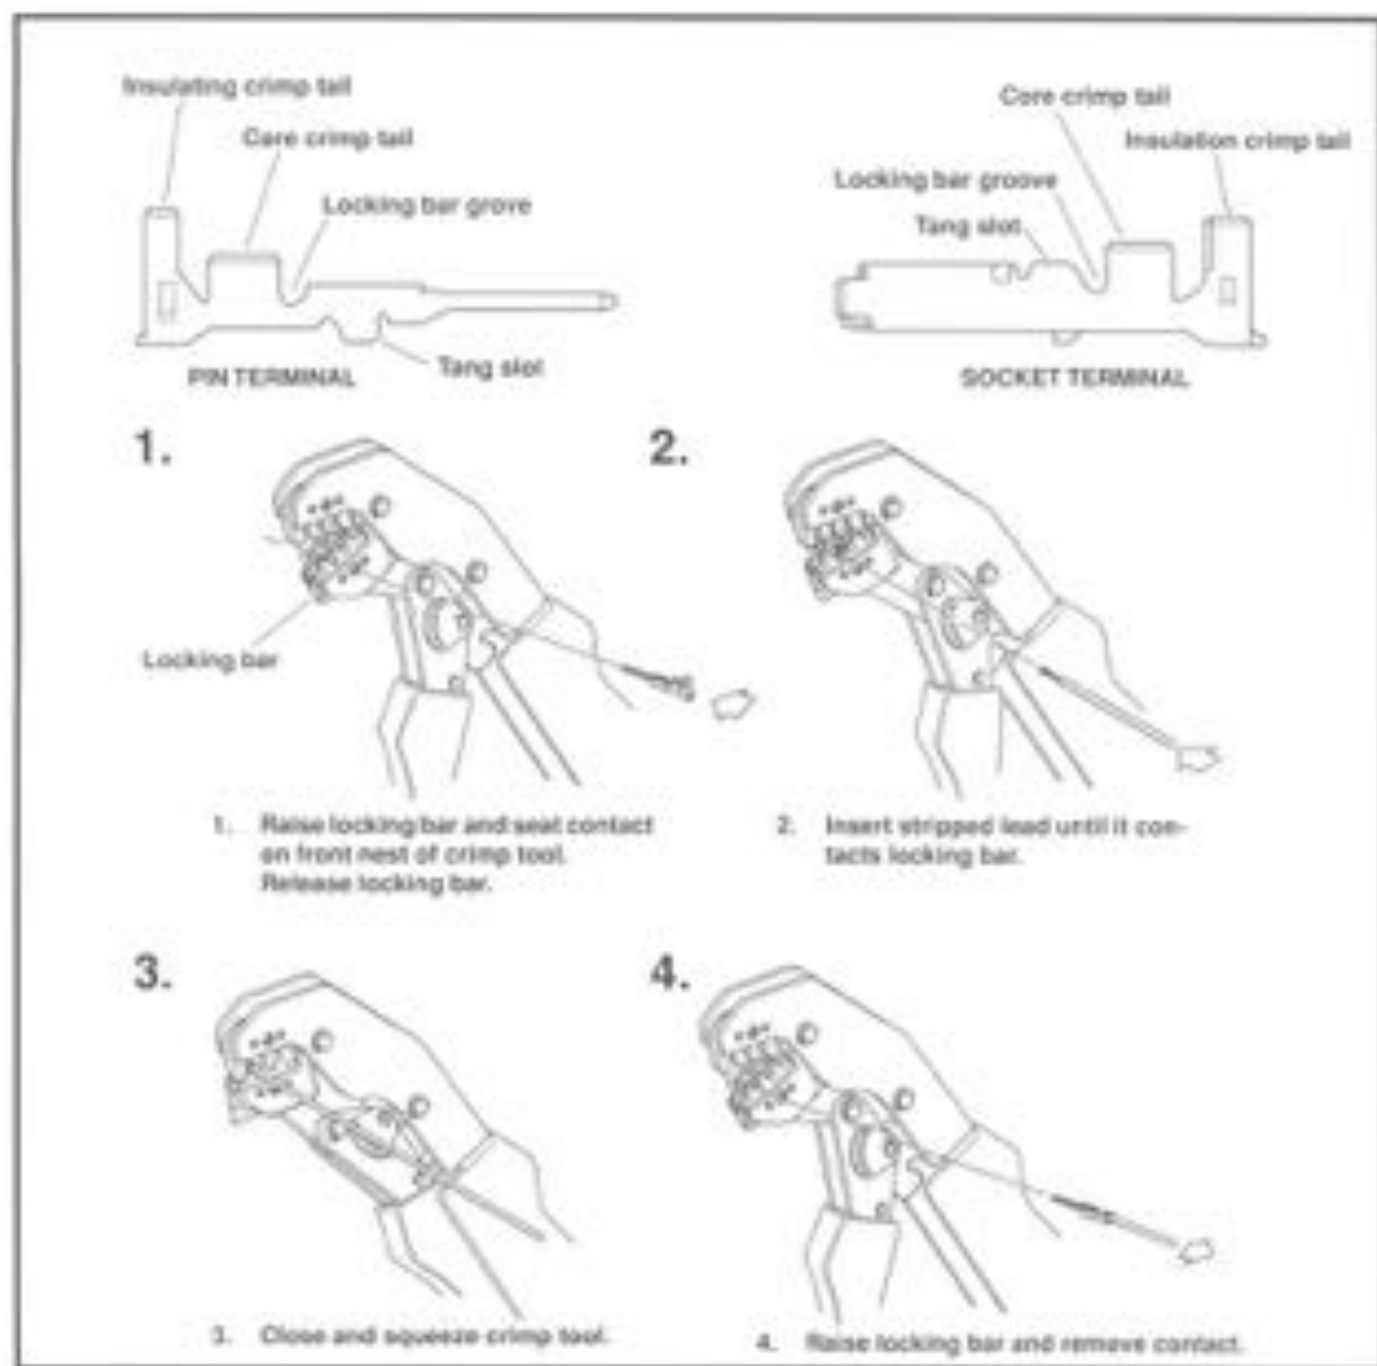

Figure 7-105. Amp Multilock Crimping Procedure
2. Raise locking bar by pushing up on bottom flange. With the crimp tails facing upward, insert contact (socket/pin) through locking bar, so that the closed side of the contact rests on the front rest (concave split level area of the crimp tool). See Figure 7-105.